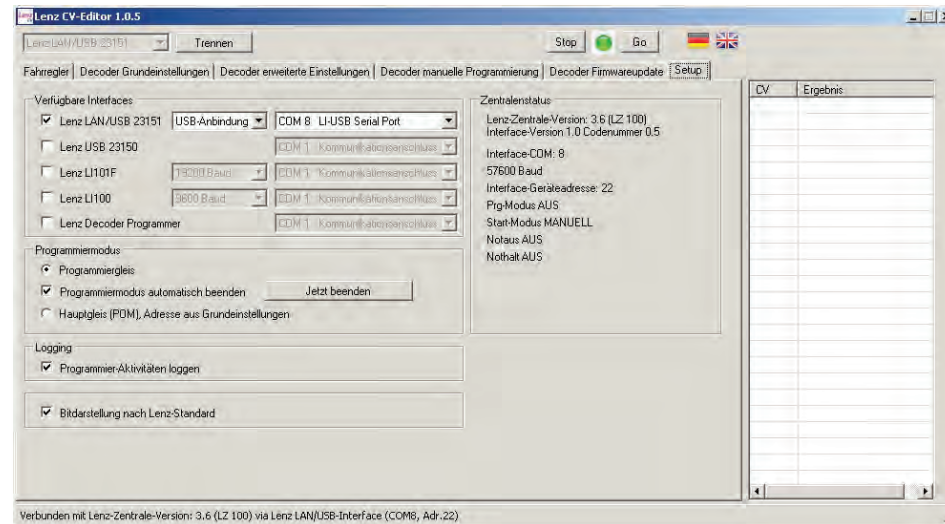

Fig. 1: No matter which Digital plus interface you use: this software knows them all
- ✓ Usable with all Digital plus interfaces, including RS232, USB and LAN connection (fig. 1)